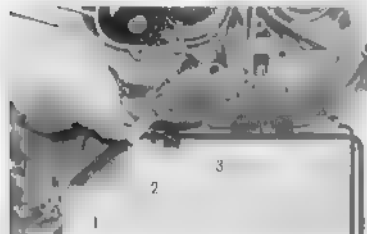

Fig. 3.61 Removing the tensioner push rod
5. Unscrew the 14 mm sealing plug ① from the end of the tensioner pushrod and remove the spring ② and rod ③ (Fig. 3.61).